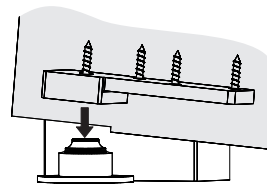

Figure 6
2. With door in open position about 90° to jamb, carefully fit door onto bottom pivot at a slight angle. (Figure 6)